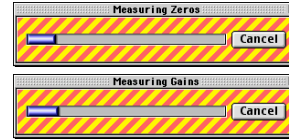

Figure D-3. Zeros and gains
- At this point, amplifier calibration begins automatically, signaled by the appearance of the Measuring Zeros progress bar, followed by the Measuring Gains progress bar (Figure D-3).